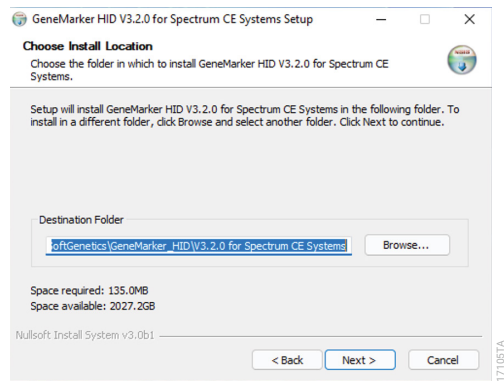

Figure 10. 'Choose Install Location' window.
6. Select the Destination Folder for the software in the 'Choose Install Location' window (Figure 10), then select **Next**.